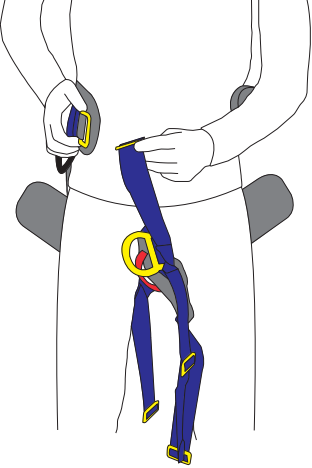

Fig. 3
3. Take hold and fit one of the two front waist adjuster buckles, then repeat with the other buckle. Centralise pad, belay loop and dee ring and adjust to fit comfortably Figs. 3 & 4. Fit waist buckle as shown in Figs. A- B & C-D